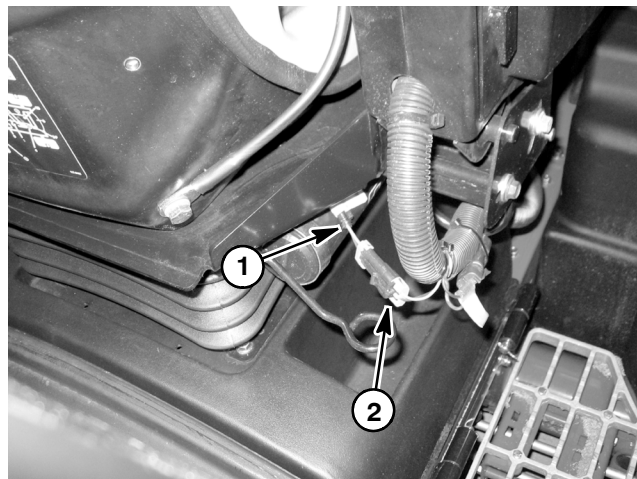

Figure 44
2. Disconnect wire harness connector from the seat switch electrical lead near the manual tube under the operator seat (Fig. 44).